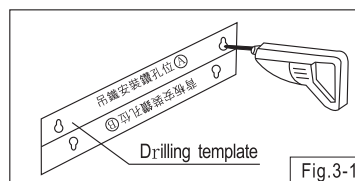

Fig.3-1
- Rest the drilling template (A) against the wall and drill holes at the indicated position (1 hole each at left and right).(Fig.3-1)